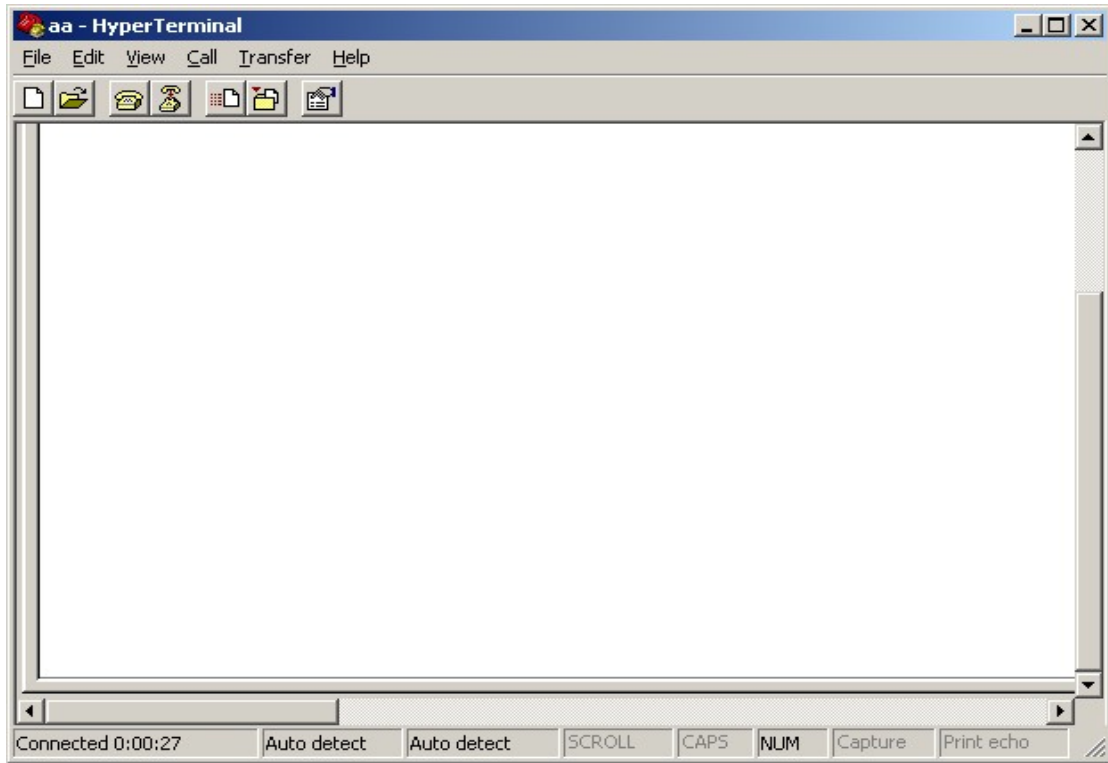

Fig. 3.1.4 Hyper Terminal Interface
Step 4: Serial port parameters setup. Set the serial port parameters as the following setup: Bits per second: 115200, Data bits: 8, Parity: None, Stop bits: 1, Flow control: None. Press “OK” after finish, the Hyper Terminal interface like Fig. 3.1.4 will appear
Step 1: Enter into the Hyper Terminal. Click “ Start”→ “Programs”→ “Accessories”→ “Communications”→ “Hyper Terminal”→ “aa.ht”, the Hyper Terminal interface in Fig. 3.1.4 will appear.